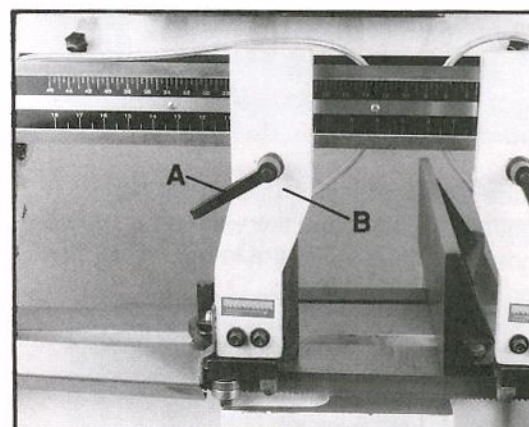

Fig. 7
6. Loosen lock knob (A, Fig. 7) and slide left blade guide arm (B, Fig. 7) to the right as far as possible.